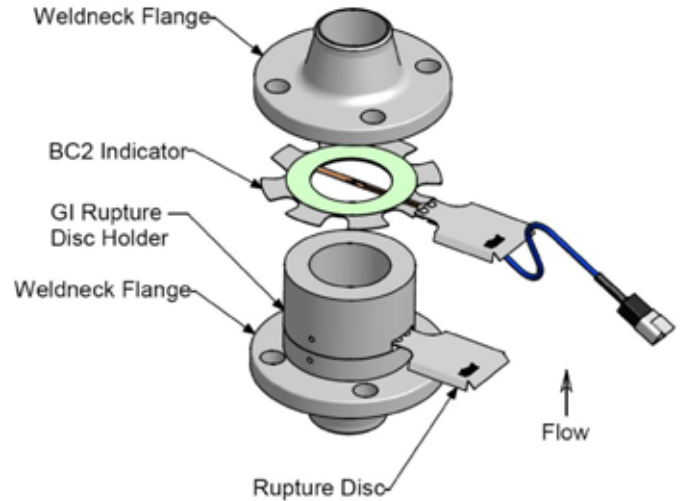

Figure 1 - BC2/BC2 LP Installation into Bolt-Type RD Holder
4. Install the BC2/BC2 LP with bolt-type holder in companion flange as shown in Figure 1. Gaskets are supplied attached to the BC2/BC2 LP, no additional gaskets are required. Do not install any spiral wound gaskets in the BC2/BC2 LP flange joint.